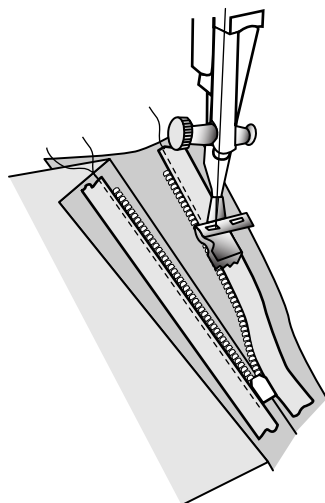

Figure 18
8. Reposition zipper foot so that the needle is to the right of the coil. Stitch remaining side from top to bottom, stopping at the desired length or pull tab. (Figure 18)